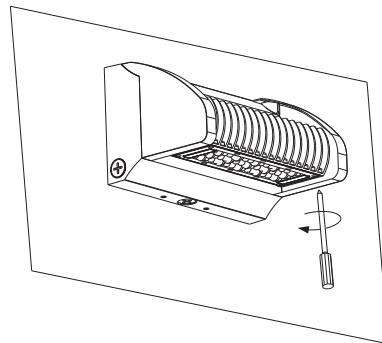

Figure 1-6
6. After installation, tighten the screws. (Figure 1-6)